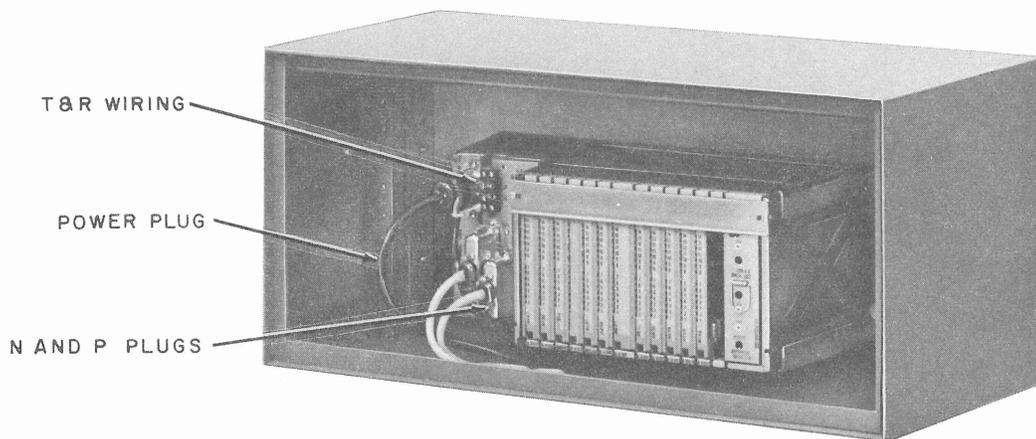

Fig. 20—35 ROTR Data Station—Controller Removal
- (1) Apply outward pressure at the top front of the KS-20018 cabinet until the panel releases (Fig. 20).
- (2) Lift the panel up to remove it from framework.
- (3) Loosen the two screws on the controller terminal board and remove the tip (T) and Ring (R) wiring.
- (4) Disconnect the N, P, and power plugs from the controller connectors (Fig. 20).
- (5) Remove two mounting screws from the 95A mounting bracket.
- (6) Disengage the two plungers that secure the controller to the mounting bracket.
- (7) Grasp the controller and pull out from the rear of the cabinet.